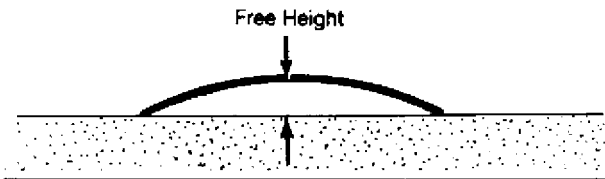

Fig. 16: Measuring Free Height of Apex Seal Spring
4) Check apex seal spring height. See Fig. 16. Replace spring if free height is less than .2165" (5.5 mm) on 1.1L engine, or .150" (3.8 mm) on 1.3L engine.